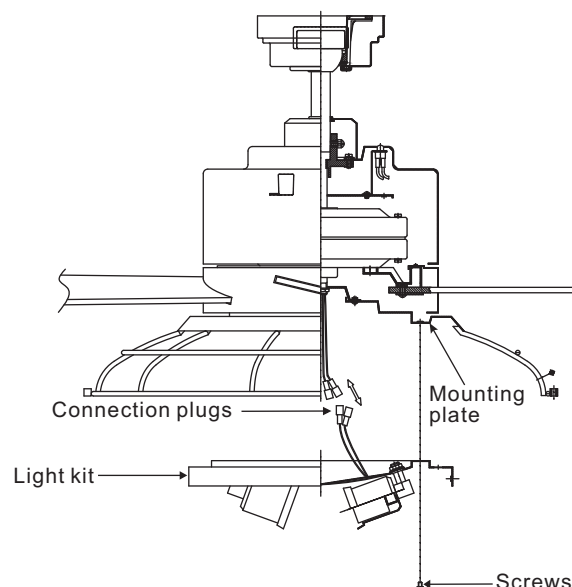

Figure 16
Step 2. Raise and hold the light kit close to the mounting plate and proceed to do the wire connections. Connect the white wire connectors from the light kit and fan, follow the same procedure with the black wire connectors. (Fig. 16)
Step 3. Tuck connections neatly into mounting plate, Place the light plate key holes over the 2 screws previously loosened from the mounting ring, turn light kit until it locks in place at the narrow section of the key holes. Secure by tightening the 2 screws previously loosened and the one previously removed. (Fig. 16)